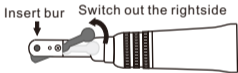

Fig. 3.3
3. Alignment the groove, contra angle can insert into the air motor[fig.3.3].